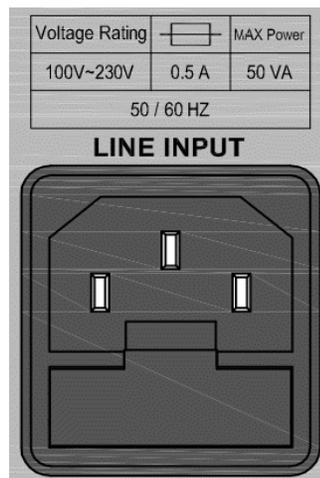

Fig 2-1 4016 Series AC Input Connection
- 2.2.2. Refer the drawing on the rear panel of 4016 Series high power Digital Power Analyzer in Fig 2-1.